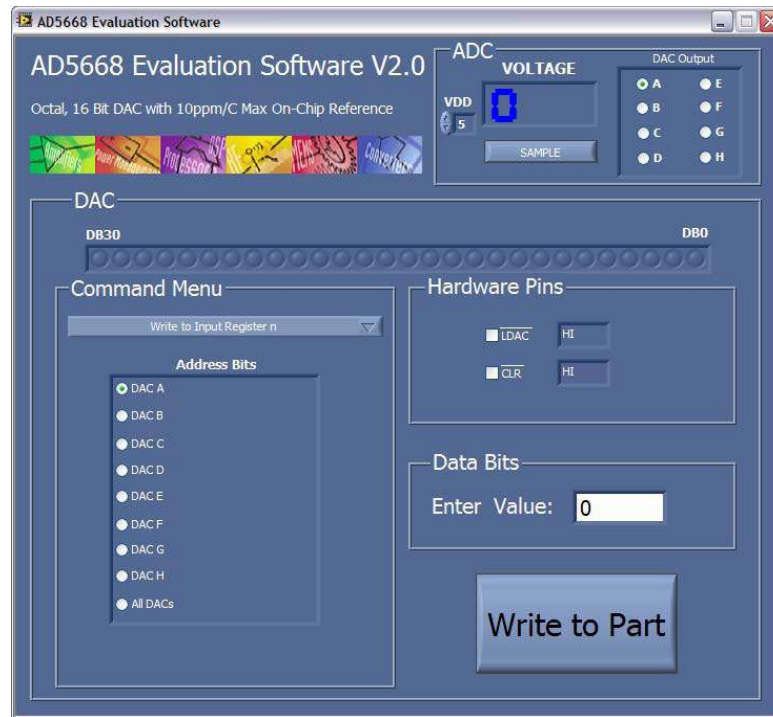

Figure 4. AD5668 Evaluation Board Main Window
4. The main window of the AD5668 evaluation software then displays, as shown in Figure 4.
The AD5668 main window opens, as shown in Figure 4. The data programmed into the 32-bit input shift register is displayed. The user can select the command bits, the address bits, and the data bits by clicking the appropriate button under each area.